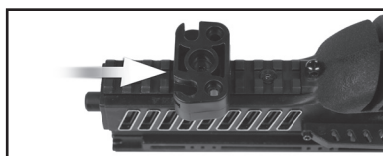

FIGURE 1D
- One (1) Quiver Bracket Screw
1. Slide the quiver bracket over the accessory rail as shown in Figure 1D.